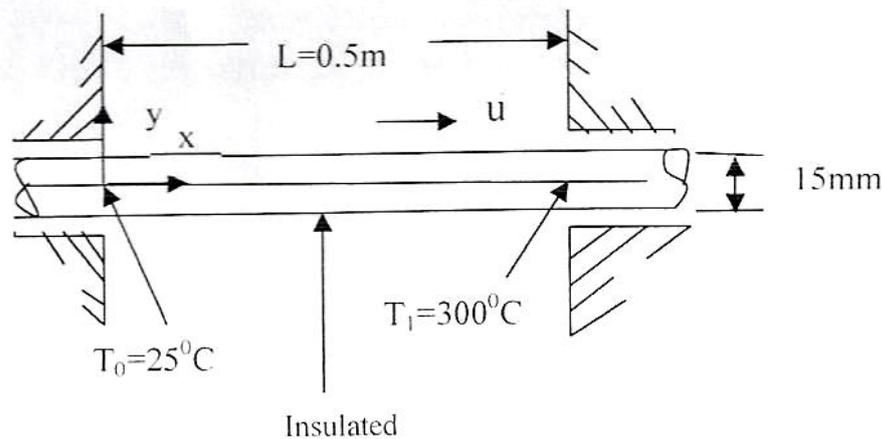

Figure 3
Q. 9 A Consider a thin rod moving with a velocity $u = 10^{-5}$ m/s as shown in figure 3. 16